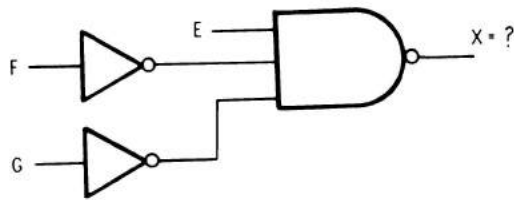

Figure 5-15
13. Which of the following logic expressions matches the circuit shown in Figure 5-15?
14. Which of the following truth table outputs indicates the operation of the circuits shown in Figure 5-15.
13. C — The logic expression for Figure 5-15 is:
14. B — Output B indicates the operation of the circuit shown in Figure 5-15.